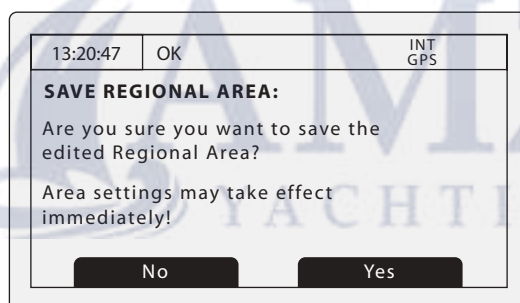

Figure 56 Regional area settings confirmation screen
7. You will be prompted to confirm storage of the regional area setting with the display shown in Figure 56.